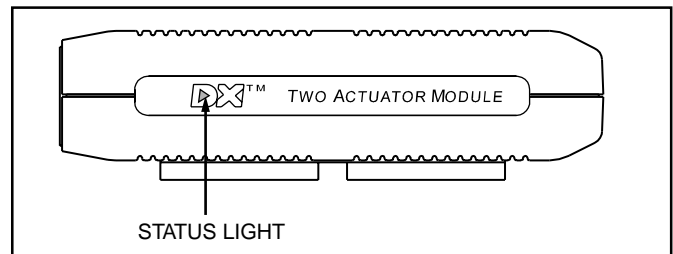

Figure 4.42. TAM Status Light Location
2. If the actuator motor does not run, locate the TAM module. This module will be mounted to the back of the tilt system inside a black case. On the module, you will have a status indicator light (on the TAM module, this light will be located in the letter "D" of the word DX on the module). This indicator light should be on steady. See figure 4.42.